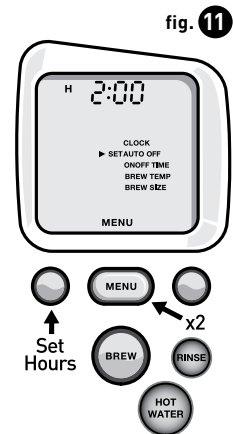

fig. 11
- a. Press the MENU Button twice to program the Auto Off feature. The LCD Control Center will now display the programming options with a small arrow next to "SET AUTO OFF" (fig. 11).